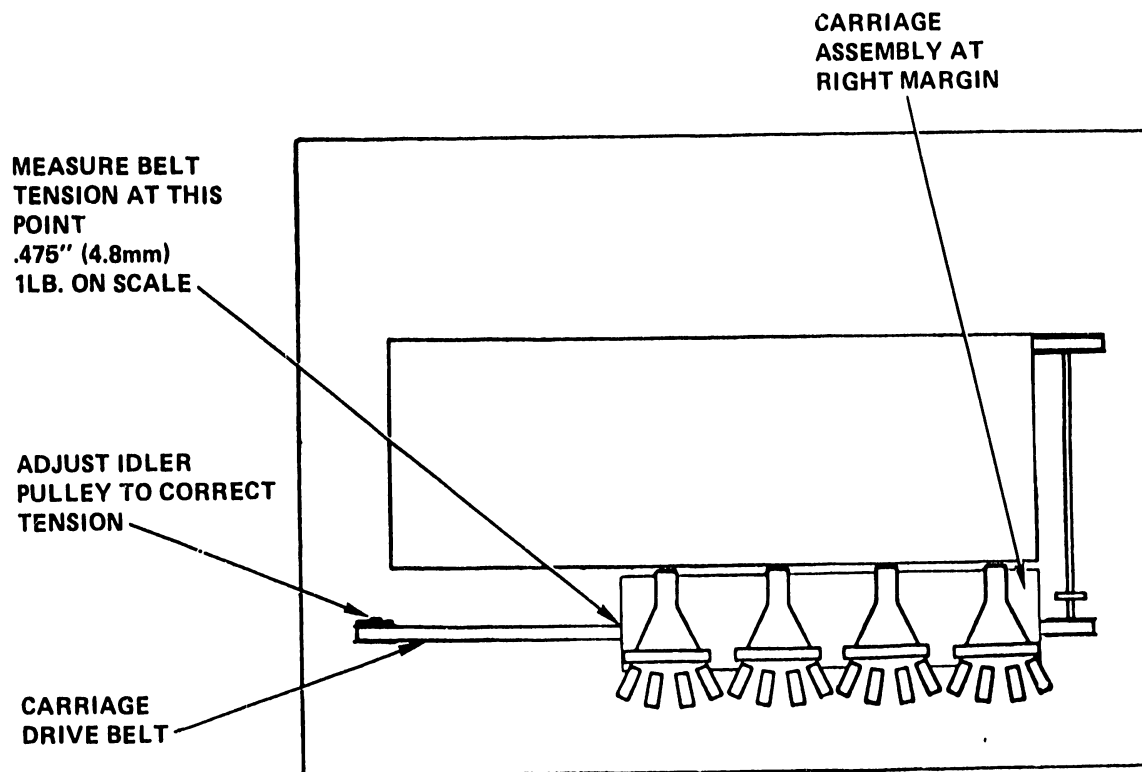

Figure 5-47. Carriage Drive Belt Adjustment
4. Using a spring gauge and scale, deflect the drive belt at the left edge of print head mounting bracket #1. The gauge should read 1 lb.  $\pm$  2 oz. when the belt is deflected 3/16" (4.8 mm). If the belt tension is incorrect, perform the adjustment below. See Figure 5-47.